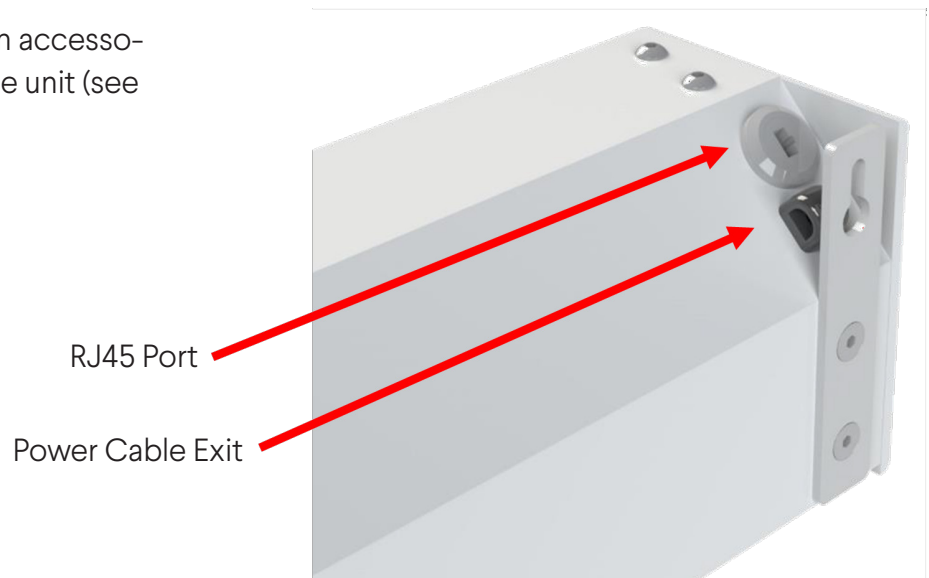

Figure 12. RS1 connections, audience right hand side of case, back of unit
The following Stewart Filmscreen accessories plug into the RJ45 port on the unit (see Figure 12).
2. Connect the wall switch cable with the RJ45 end to the motor side back of RS1 case on the RJ45 port (see Figure 12).
1. Connect the RJ45 connector to the back of the RS1 unit case on the right hand side into the RJ45 port (see Figure 12).